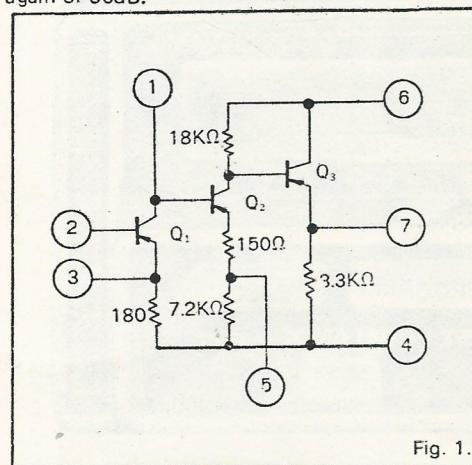

Fig. 1.
- The IC in the preamplifier is equivalent to a circuit containing 3 transistors and 5 resistors as shown in Fig 1. It is very convenient when repairing to refer to a circuit equivalent to Fig. 1.